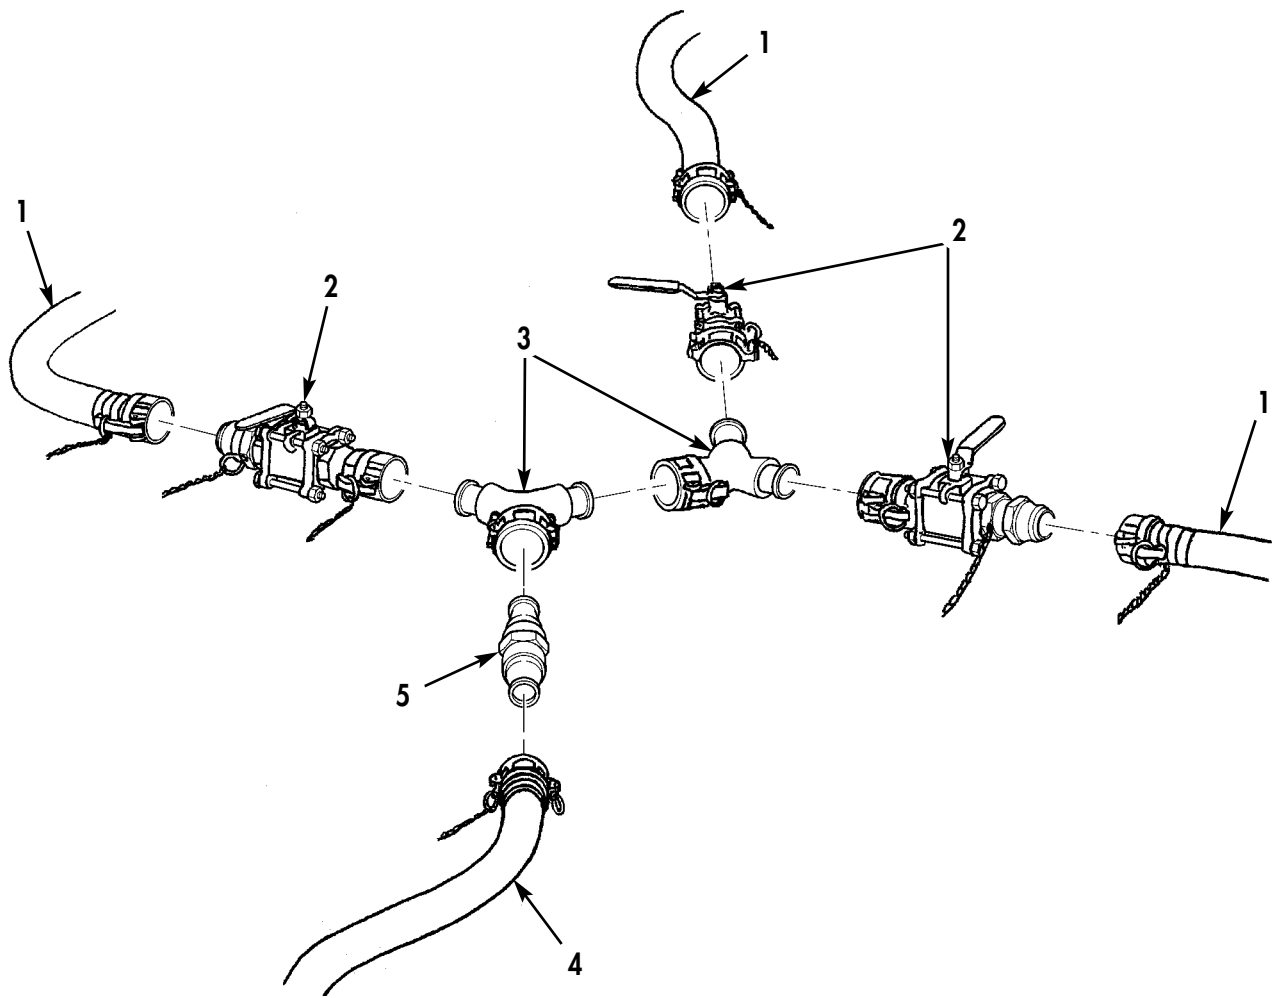

Figure 2. Disconnecting Hoses.
4. Remove three 2 in. (51 mm) DIA x 10 ft (3 m) long suction hose assemblies (Figure 2, Item 1) from three ball valves (Figure 2, Item 2). Drain water and install plug on coupling end of each hose assembly (Figure 2, Item 1).
5. Remove three ball valves (Figure 2, Item 2) from two Y-fittings (Figure 2, Item 3), and install cap and plug on each ball valve (Figure 2, Item 2).
6. Remove two Y-fittings (Figure 2, Item 3) and male adapter (Figure 2, Item 5) from 2 in. (51 mm) DIA x 10 ft (3 m) long suction hose assembly (Figure 2, Item 4). Install caps and plugs.